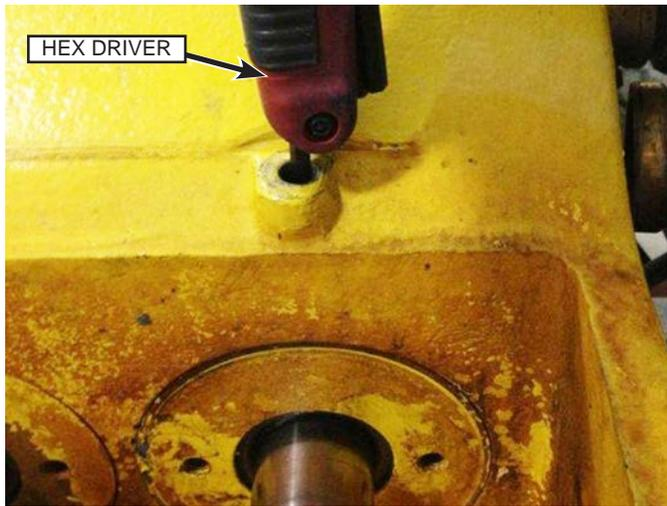

Fig. 125: Set Screw Access
- Using a 1/4" hex driver, loosen the set screw inside the bolt hole 2-3 full revolutions. Refer to Fig. 125.